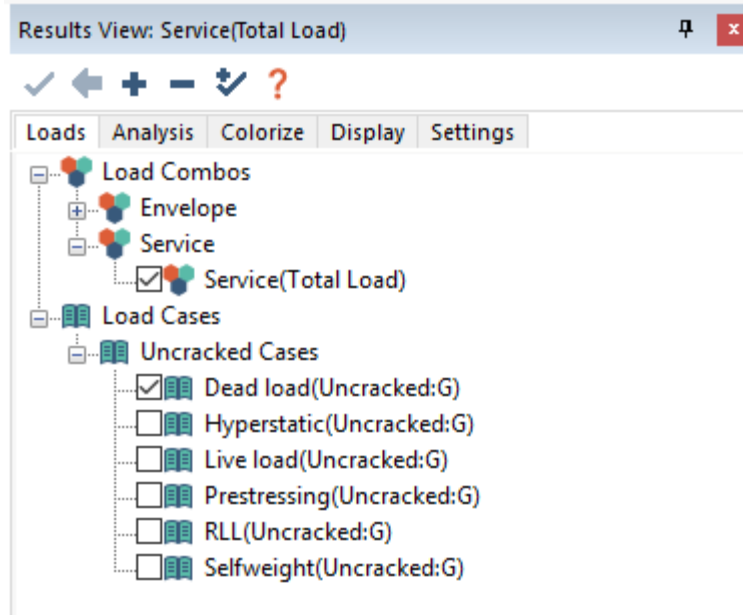

FIGURE 7-13
- Once the solution is saved the program will open the *Results View* panel docked on the right side of the modeling interface as shown in FIGURE 7-13.
- In the *Results View* panel from **FIGURE 7-13**, the default view is of the **Loads** tab. In this tab we can select the load combination or load case we want to view results for. We only analyzed the model for the *Service (Total Load)* load combination so only that individual load combination will be available in the *Load Combos->Service* tree. Since we have not defined any loading or modeled any post-tensioning, the effect on this load combination will be 0 for these load cases, leaving us with only the self-weight of the model within this load combination.